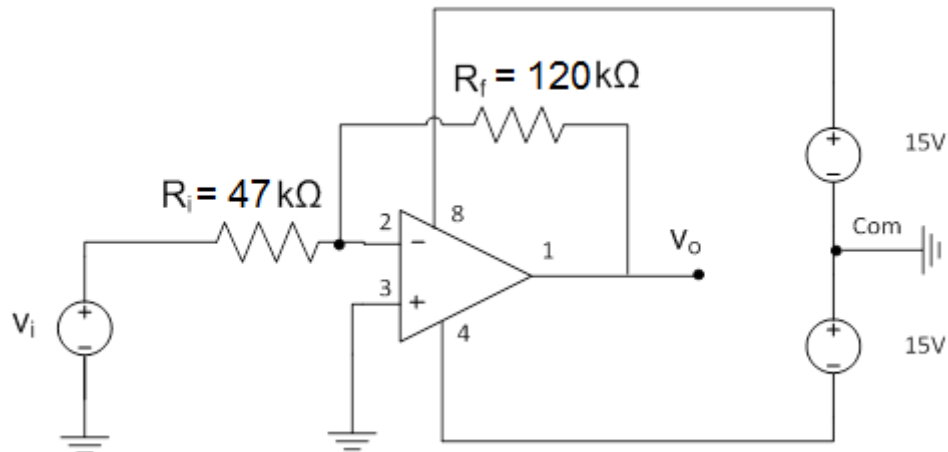
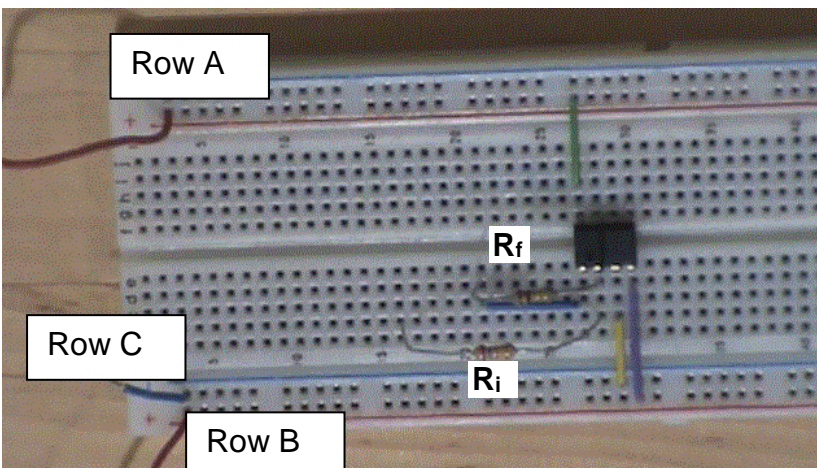
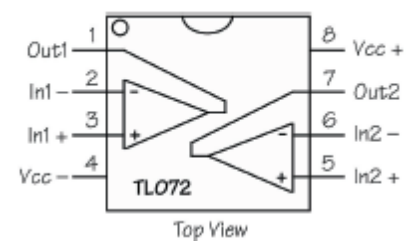

Figure 8-1: Inverting amplifier circuit
Figure 8-2: Proper layout of the inverting op-amp circuit of Figure 8-1. Pin 1 has a dot in the corner of the chip.
Figure 8-3: TL072 pin diagram. Both op-amps are powered through pin 4 and 8 ($V_{CC-} = -15V$ and $V_{CC+} = 15V$)
1.3 Read sections 5.1-5.3 in your textbook. For the circuit shown in Figure 8-1, assume the op-amp is ideal and use Node Analysis to calculate the following:
- Copy the circuit in Figure 8-1 in your lab book. Use the measured values of the resistors in your kit and determine the gain formula of the circuit V_o/V_i in terms of variables R_i and R_f . Calculate the numeric value of the gain.
You are going to build the circuit of Figure 8-1 and make some measurements using the DMM and the oscilloscope.
2.1 Power the Op-amp. Construct the circuit of Figure 8-1 on your breadboard. You will use the IC chip TL072 which contains two op-amps. Before removing your IC chip from the ESD container, you should touch the ground terminal of a power supply that is powered “on” with one hand, while handling the chip with the other hand. This will ensure that any electrical charge on your body has been discharged before you touch the chip.
2.1.1 Place the op-amp chip across the center ‘gutter’ with pin 1 on the lower left as shown in Figure 8-2. The pin numbers of the TL072 IC package are labeled on the circuit. When working with the TL072, you should follow the pin-out diagram in Figure 8-3.
row A, as shown in Figure 8-2. Then row A should be connected to pin 8 (VCC+). Set the -25 V supply to -15 V and connect the red lead to row B, and row B should be connected to pin 4. It is important to set the current limit to 100mA on both inputs. The common terminal (black lead) is the common ground of the circuit and should be connected to row C on the bottom of the breadboard.
2.1.3 Connect the feedback resistor (R_f) between pins 1 and 2, and connect the input resistor (R_i) to pin 2. Pin 3 should be connected to ground. As shown in Figure 8-2.
2.6.1 Connect the output of the FG to the input of the op-amp circuit of Figure 8-1. Using a BNC-to-clips lead, connect BNC end to the port labeled “output” and the clips end the input resistor (red clip) and the black clip to the common ground of your circuit (which is the bottom row A in Figure 8-2). Set the frequency of the FG to 1 kHz. Set the amplitude of the Function Generator to 1 Vpp.
- Circuit of Figure 8-1 with all components labeled, including the pin numbers of the TL072 IC chip